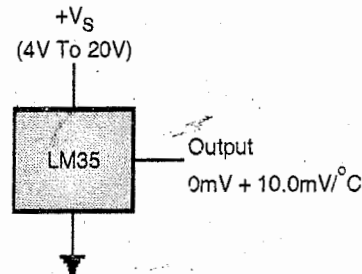

Fig. 13.4.1 : Circuit diagram for the LM35 basic temperature sensor ( $+2^\circ\text{C}$  to  $+150^\circ\text{C}$ )
- As shown in the Fig. 13.4.1 the connection for LM35 is very simple. Also the output scale is linear with a change of  $10\text{mV}/^\circ\text{C}$ .